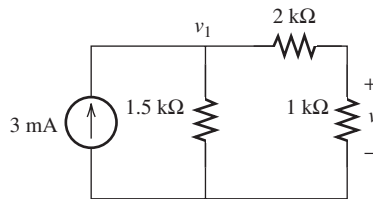

FIGURE P2.54 Circuit for Problem 2.54.
2.54 (H) Find v in the circuit shown in Figure P2.54.
2.55 (H) Find the power dissipated in all the resistors of Figure P2.54.